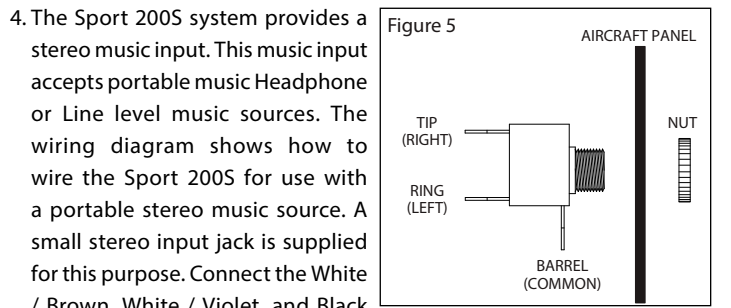
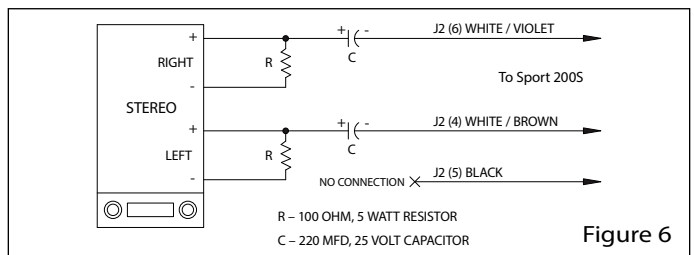
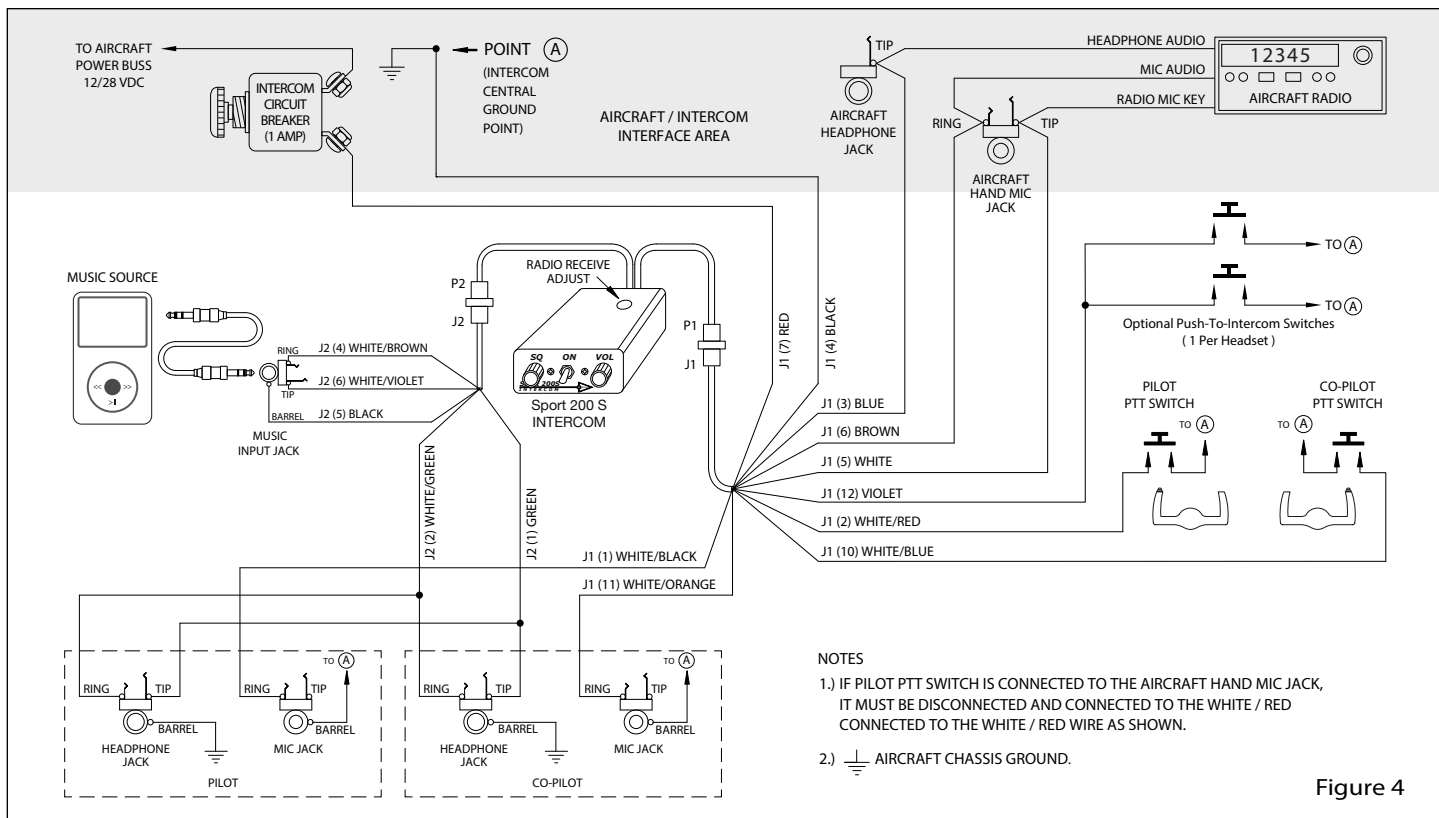

Figure 5
Figure 6
Figure 4
Connections should be made as shown in Figure 4 and indicated in Tables 1 and 2. Read also the referenced notes below. If longer wire lengths are required, use a good quality multi stranded hook-up wire - 22 gauge or larger. Although not necessary, shielded audio wire can be used if desired.
2. Connect all intercom mic jack grounds to a single aircraft chassis ground point - Intercom Central ground Point "A" - as shown in Figure 4. (Use the black washers supplied to insulate the intercom mic jacks from aircraft chassis ground). Note this intercom central grounding point is used to eliminate any unwanted electrical noises, such as alternator whine or strobe noise, from being induced into the intercom system through the grounds. All intercom mic jack barrels must be insulated from ground where they are mounted and connected back to Intercom Central Ground Point "A" on their own individual ground wire. Similarly, both intercom ground wires (J1 pin 4) and the push-to-transmit switch grounds must also be connected back to Intercom Central Ground Point "A". It is not necessary, however, to connect the headphone jack barrels to Intercom Central Ground Point "A". They can either be grounded where they are mounted or some place nearby.
4. The Sport 200S system provides a stereo music input. This music input accepts portable music Headphone or Line level music sources. The wiring diagram shows how to wire the Sport 200S for use with a portable stereo music source. A small stereo input jack is supplied for this purpose. Connect the White / Brown, White / Violet, and Black wires to the input jack as shown in Figure 4. Identify the jack terminals using Figure 5. Drill a 1/4" hole for the jack and mount on the aircraft panel. To use, connect an adapter cable between the music input jack and the output of the portable stereo. Suitable cables are available at your local Stereo or electronics store as well as from Sigtronics. Speaker level output car stereo music sources can also be used with the Sport 200S system. A Floating Ground Adapter or a four wire to three wire converter will have to be used between the Stereo and the Sport 200S music input. Figure 6 shows such an adapter and how it is wired into the Sport 200S.
It may also be necessary to adjust the unit radio receive input from the aircraft radio. A small adjustable potentiometer is provided inside the unit for this purpose. It is accessible under a sticker on top of the chassis box (see Figure 4), and can be adjusted with a small blade screwdriver. In the event of low aircraft radio volume in the "ON" mode relative to "OFF" mode, an appropriate adjustment can be made. Clockwise rotation increases the input level to the Sport 200S radio receive input. Counter-clockwise rotation decreases input level. This adjustment sometimes needs to be made after the initial installation of the intercom or if a new radio is installed that has a low output impedance or low output power. The adjustment is best made with all headsets plugged in. (The input is set full CCW which is unity gain for 500Ω radios). **Note:** Be sure to replace the sticker when you have completed the adjustment.
Install a separate momentary switch at each headset position. Connect per Figure 4. To use the push-to-intercom feature, turn the squelch control on the intercom fully counter-clockwise. Then to activate, press the push-to-intercom switch(s). Alternately, to use the intercom in voice activated (VOX) mode set the intercom squelch as normal. See the separate Sport 200S OPERATING INSTRUCTIONS sheet.